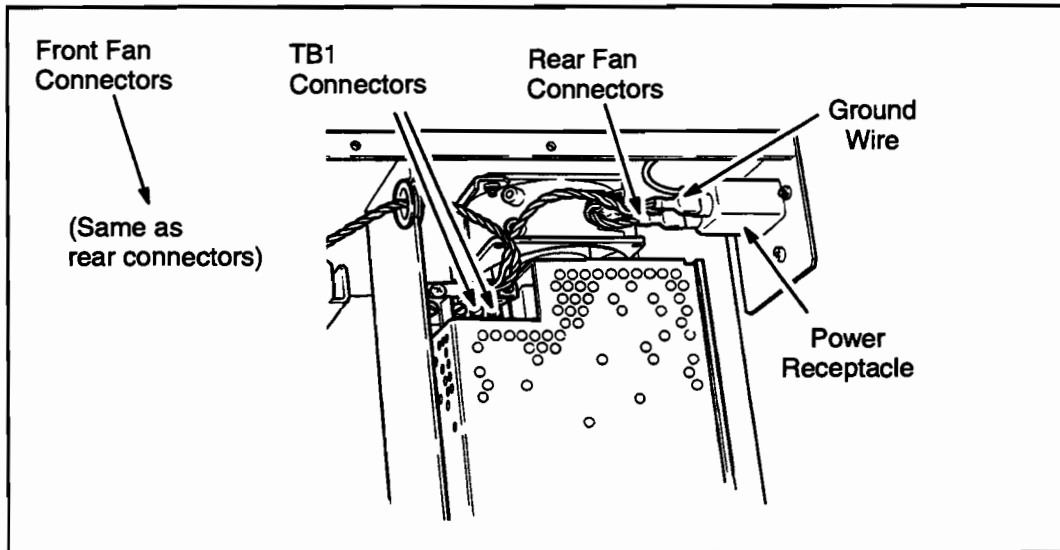

Figure 6-104. Power Receptacle Wiring
4. Using a 9/32 in. nut driver, remove the receptacle ground wire mounting nut and disconnect the ground wire from the side of the chassis. See Figure 6-104.
5. Disconnect the receptacle wire connectors from the front and rear fans. See Figure 6-104.
6. Disconnect the receptacle wire connections at TB1 on the power supply. See Figure 6-104.